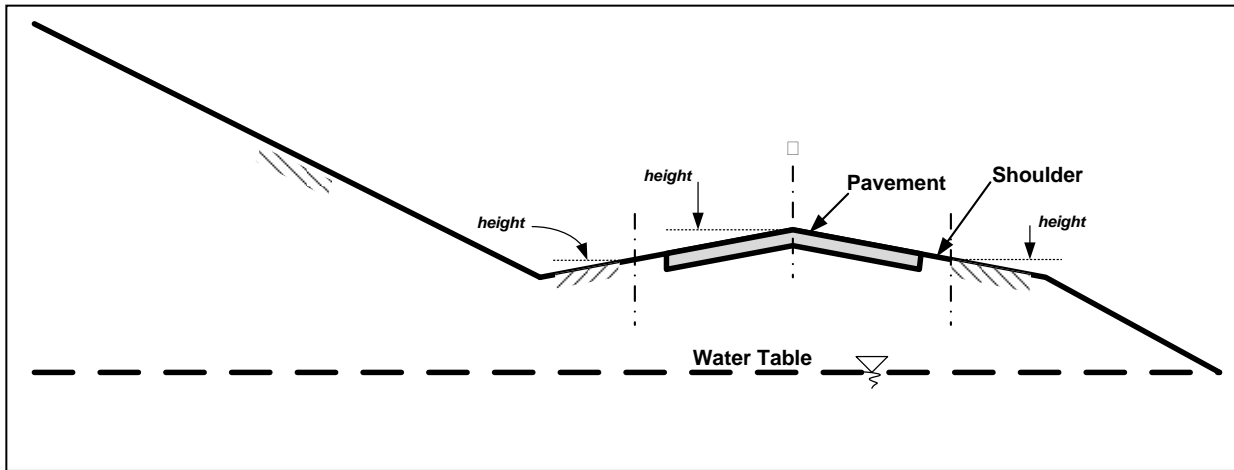

Figure 2 Typical road cross-sections
- (d) A typical cross section of road in the area of hilliness is shown in **Figure 2**. This type of area would contribute high water discharge and high velocity of water for the road due to the steep slope. Therefore, we have to consider the subsurface drainage systems and sources. You are asked to sketch the above cross section with all sources of subsurface water in that area and discuss in brief each of sources.